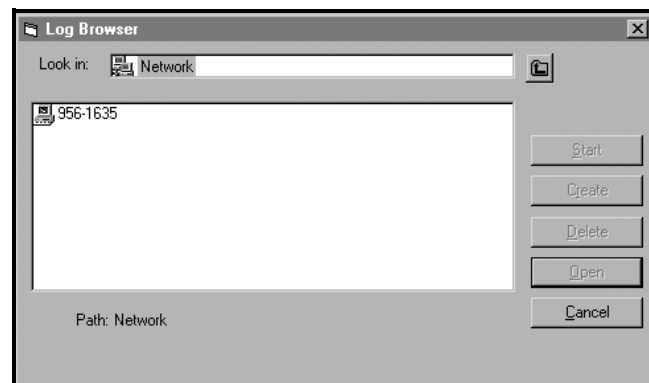

Figure 3-5: Computer Selection
- Click on the *Log Browser* option. The dialog box shown in Figure 3-5 below appears.